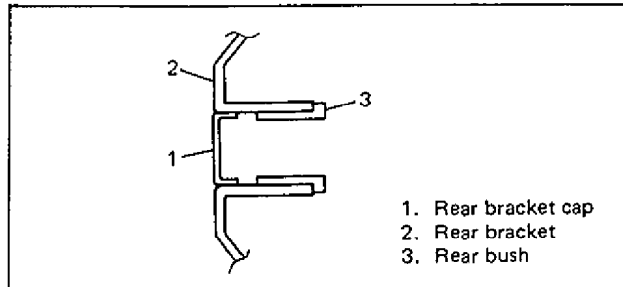

Fig. 6G1-12-2
- 3) Apply grease. (Refer to Fig. 6G1-2.)